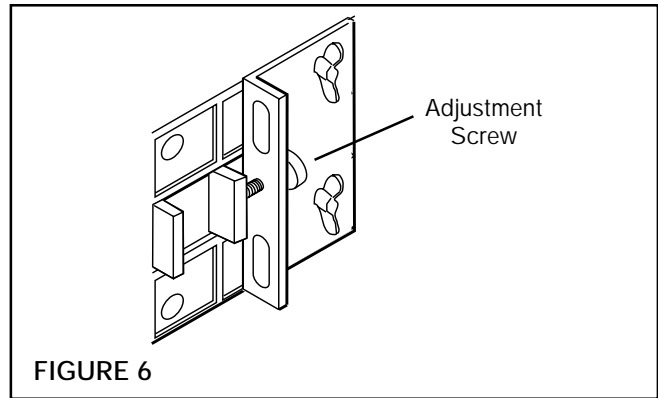

FIGURE 6
3. Using the four Wing Screws provided, secure the Mounting Brackets to the Mounting Shell (See Figure 6).
4. Insert the Adjustment Screw and jam nuts into the center hole of Mounting Brackets (See Figure 6).
5. Adjust the screws until the panel is firmly clamped between the TM140A front panel bezel and slides (See Figure 6).